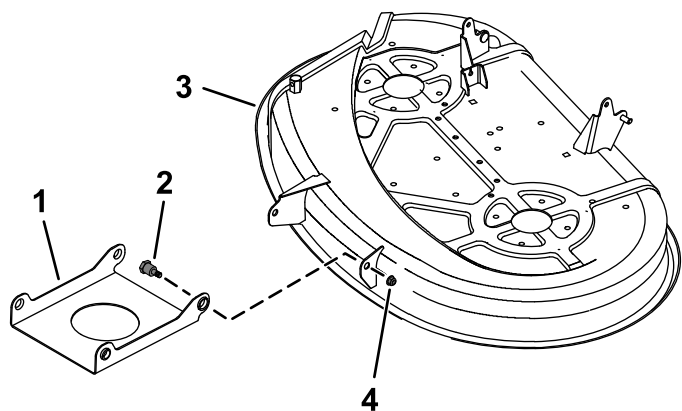

Figure 1
1. Remove the existing shoulder bolt and locknut from the bracket and deck (Figure 1).